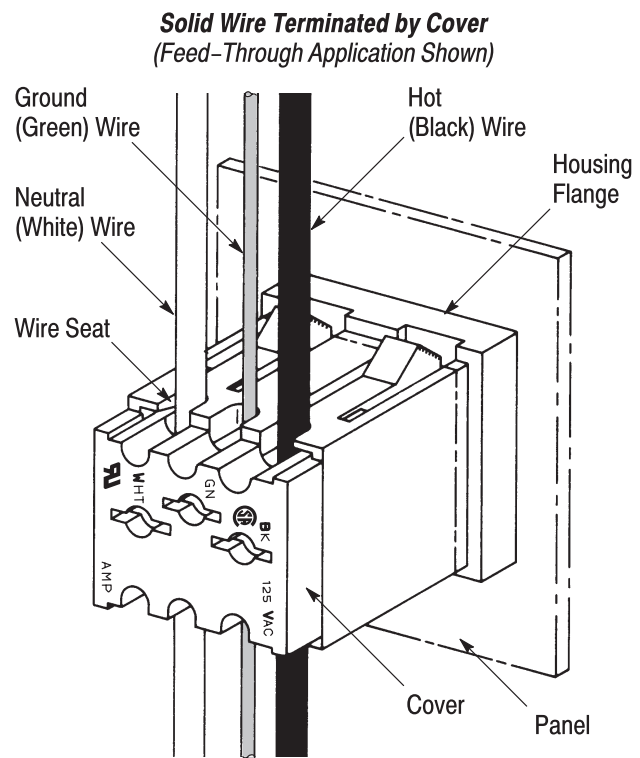

Figure 2
3. Place *unstripped solid* wire on the appropriate wire seats of the outlet (refer to Figure 2):
4. Align the cover with the receptacle block, making sure that the polarizing features are aligned; then press the cover straight into the housing until it bottoms on the receptacle block. See Figure 2.